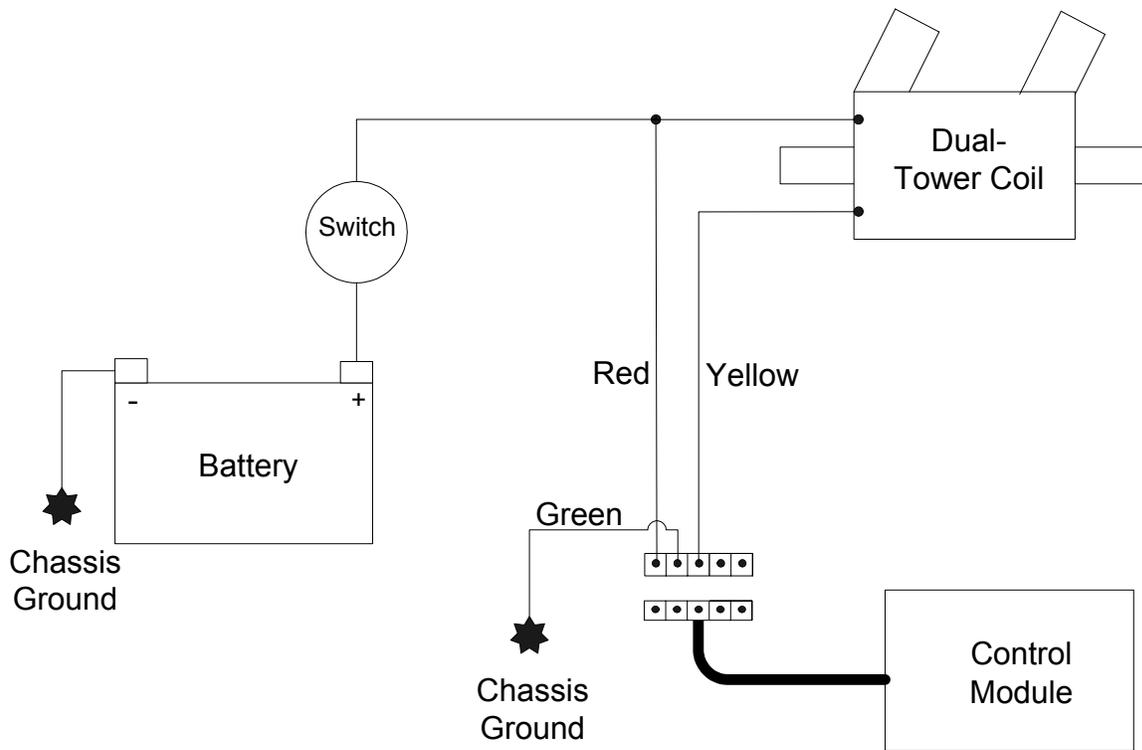

Figure 1
43. Figure 1 shows how the power wiring should look when you're done. The pickup plate and its wires are left out of the diagram for clarity – only the wires that the installer is responsible for connecting are shown. If you are unfamiliar with wiring diagrams, wires that have a “dot” at their intersection are electrically connected to one another, while a “jog” signifies that they are not connected.